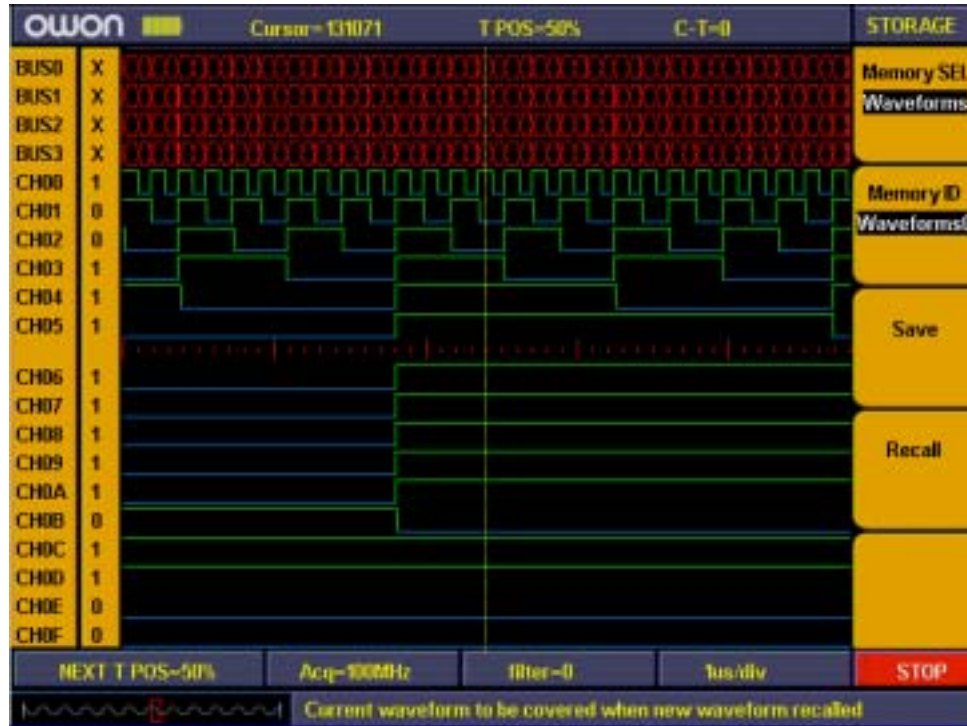

Fig 82 : Waveform saving
8. Press “ **F4** ” to recall the memory waveform or settings (refer to Fig. 82)